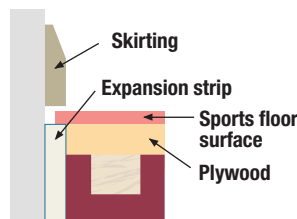

FIG 8
- 11** Once the plywood boards have been laid and the proprietary vinyl or hardwood flooring has been applied, cut away any surplus expansion strip with a sharp builder's knife. If required, skirting can now be fitted (Fig. 8).